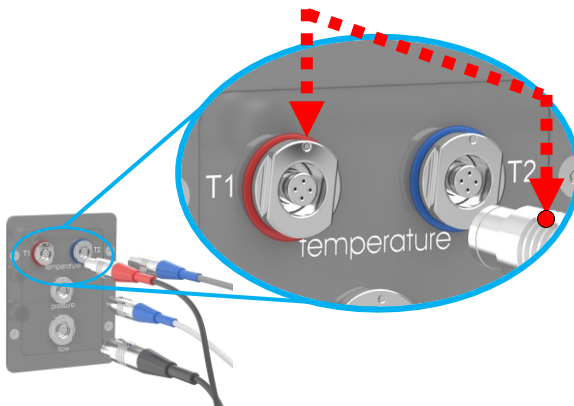

Figure 17 Connecting the sensors to the pump unit. Ensure proper alignment for each sensor, by orienting the sensor connection with the red dot facing upwards.
- Connect the temperature sensors, flow sensor and pressure sensor (Figure 17) to the pump unit (Figure 3, item 9, 10, 11 & 12). Make sure to match the color coding of the temperature sensors. Make sure to connect the sensor connection with the red dot facing upwards.